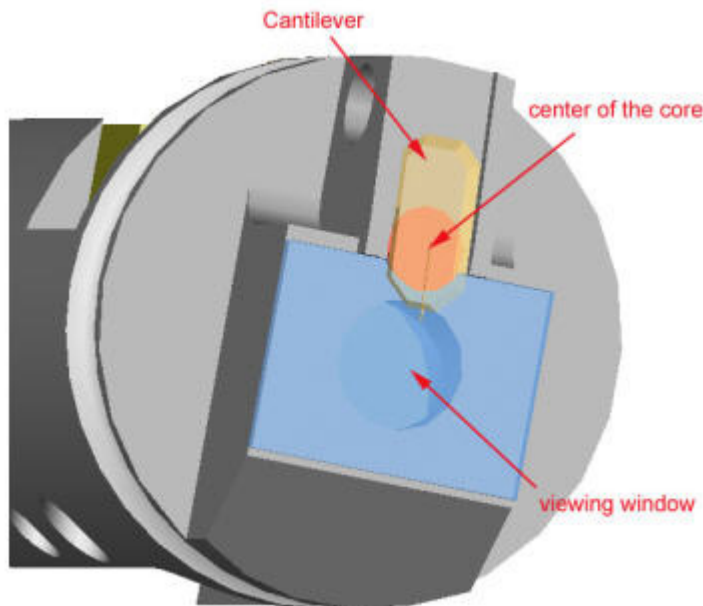

Figure 3 (Place the cantilever as close to the edge of the window as possible)
3. When placing the cantilever chip, have the cantilever as close to the edge of the viewing window as possible. See Figure 3 below. **Note:** The optical viewing window is offset from the center of the nose cone. The field is centered at the core beneath the cantilever, near the window.